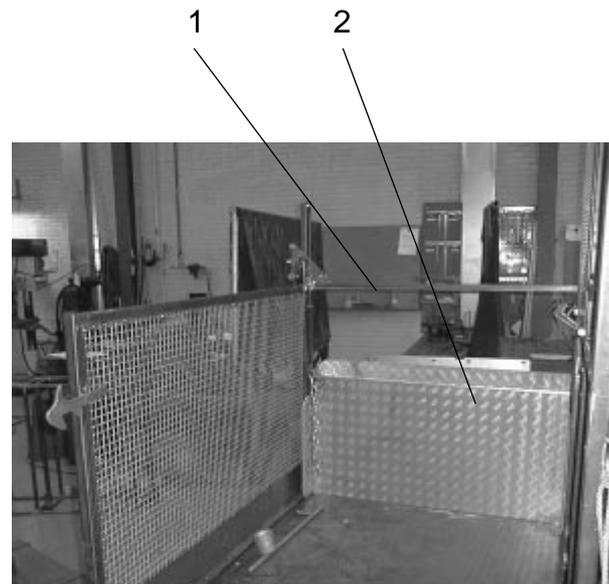

Fig.7-3 Loading ramp
- Open the upper 1.10 m-lever (fig. 7-3, 1) (further travel is halted via a limit switch, which interrupts the safety circuit). The loading ramp (fig. 7-3, 2) opens automatically.